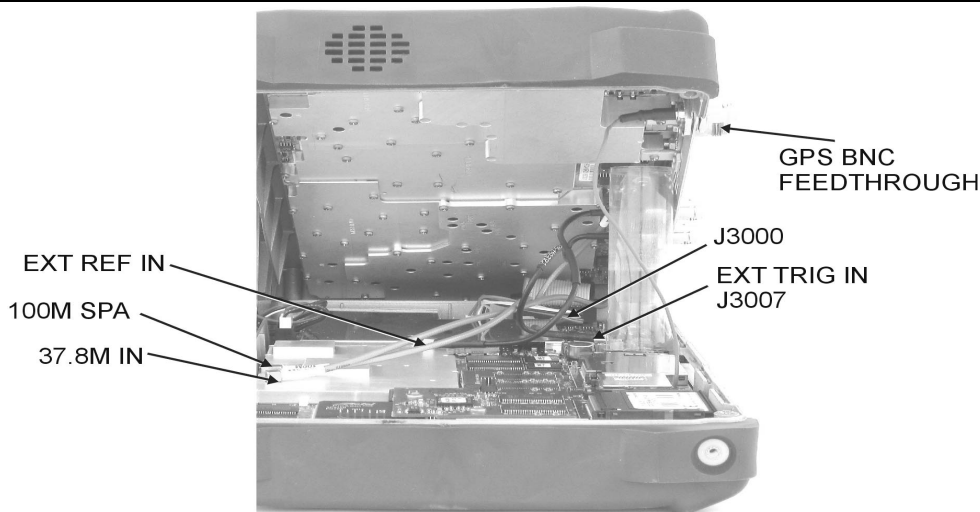
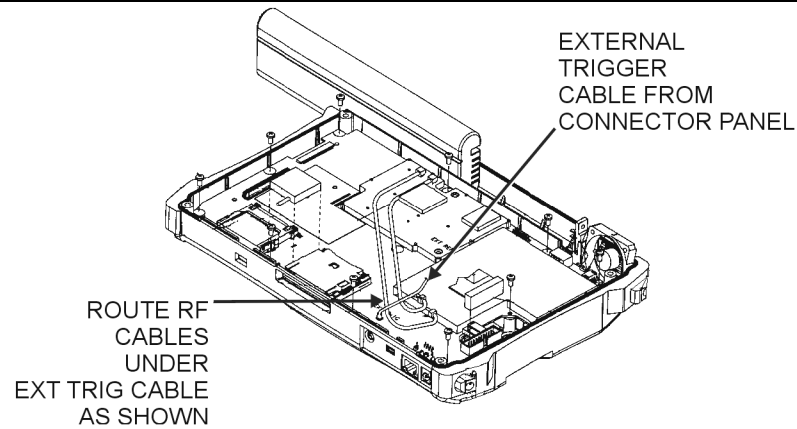

Figure 13. Front Panel Assembly Removal and Cable Connections
Figure 14. Cable Routing Diagram
CAUTION: Do not force or pull the two halves of the case apart completely, there are delicate cables attached between the two halves that must be disconnected first. Refer to Figure 13 and Figure 14 and note the position and routing of the cables, they should be similarly routed when the unit is reassembled.
5. For GPS option 31 equipped units, carefully loosen and remove the lock nut and washer from the GPS BNC connector at the housing feed through. Then remove the GPS BNC connector from the case (Figure 13).
12. Reverse the above steps to reassemble the case (Figure 14).